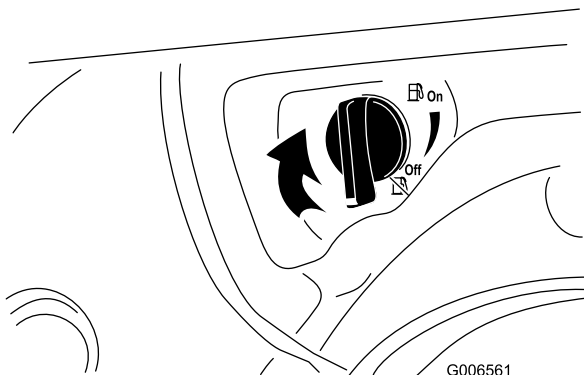

Figure 26
4. Close the fuel shutoff valve by rotating it clockwise (Figure 26).